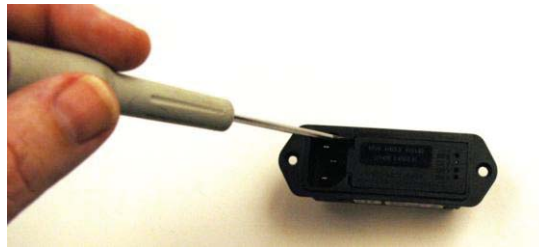

Figure 11
Step 1: Gently pry open the panel door using a small flat head screwdriver, as indicated in Figure 11. Insert the screwdriver into both slots in turn until the panel door pops open. The panel door can then be fully-opened by lifting the door at the far end (end furthest away from the 3-pin socket) and allowing the door to hinge.